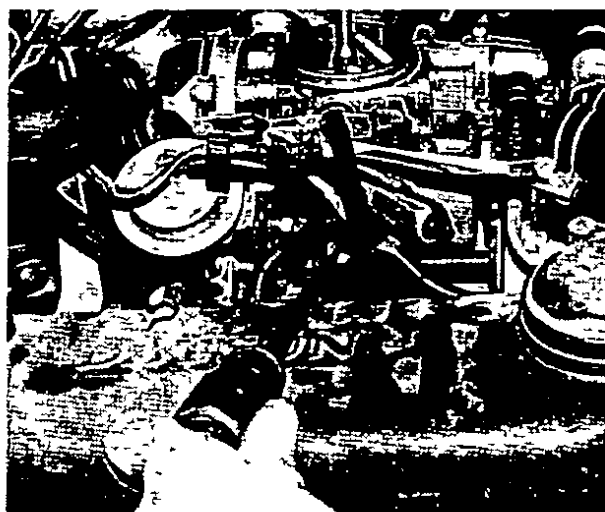
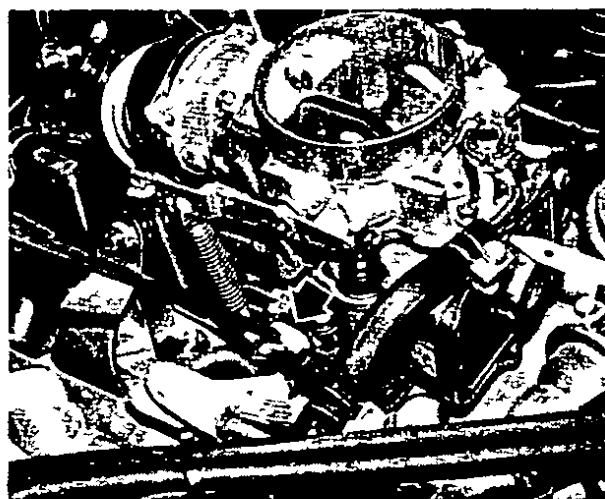

Fig. 43 Idle mixture screw – Model B210
Fig. 44 Idle mixture screw – Models 610 and 710
- 7 *Adjust idle mixture* by turning the idle mixture screw clockwise until you get a noticeable (about 100 rpm) drop in idle speed. See Fig. 43 for the idle mixture screw location on B210 models and Fig. 44 for 610 and 710 models.